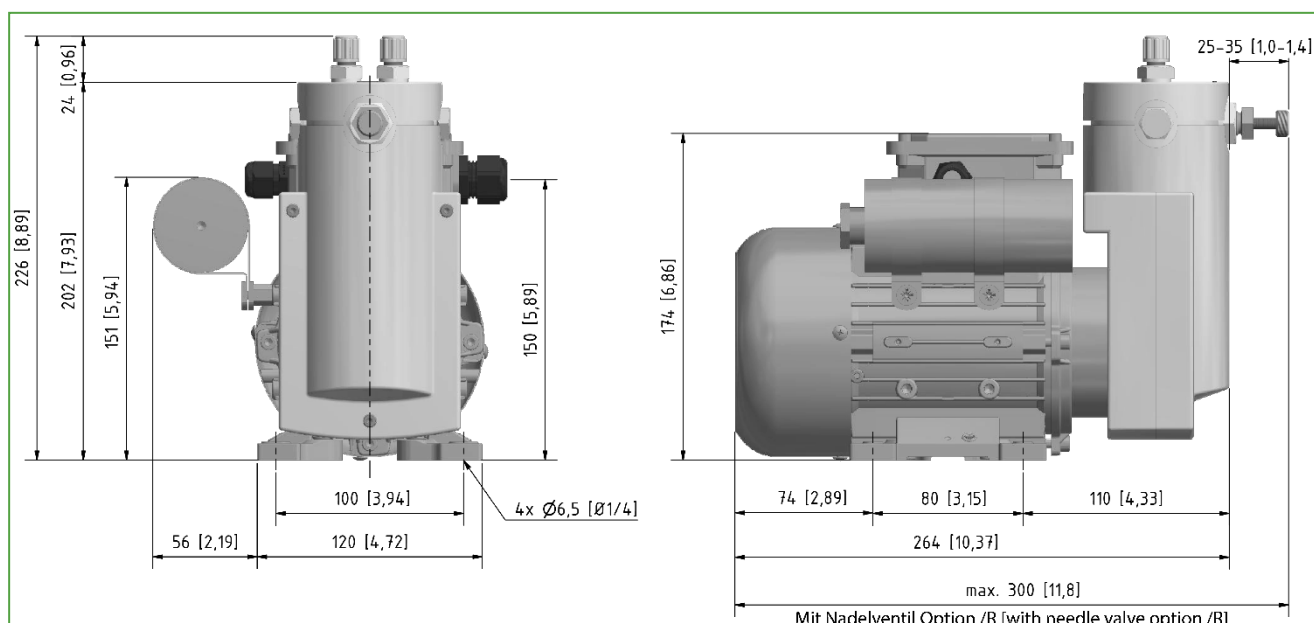

Figure 4 Dimensions MP-F.../R/EX
- Mount the pump through the four 6.5 mm [≈ 0.26 "] holes located in the base of the pump. If vibrations are likely to occur at this location, use vibration control air springs to decouple the vibration source. Screw the pump tightly to the ground. For dimensions, please see Figure 4. For sufficient supply of cooling air, the pump needs to be mounted at least 40 mm [≈ 1.57 "] apart from the wall.